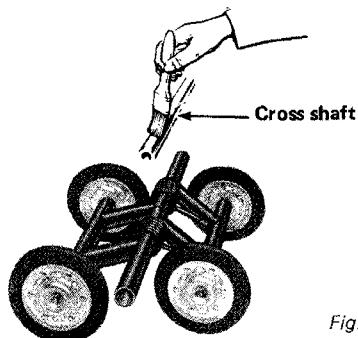

Fig. 20
4. Spray bogie wheel springs with Ski-Doo\* metal protector. If unavailable, wipe with cloth or rag soaked in oil. Check condition of shaft and replace if bent or worn. Apply a coat of low temp. grease on cross shaft. (See Fig. 20).